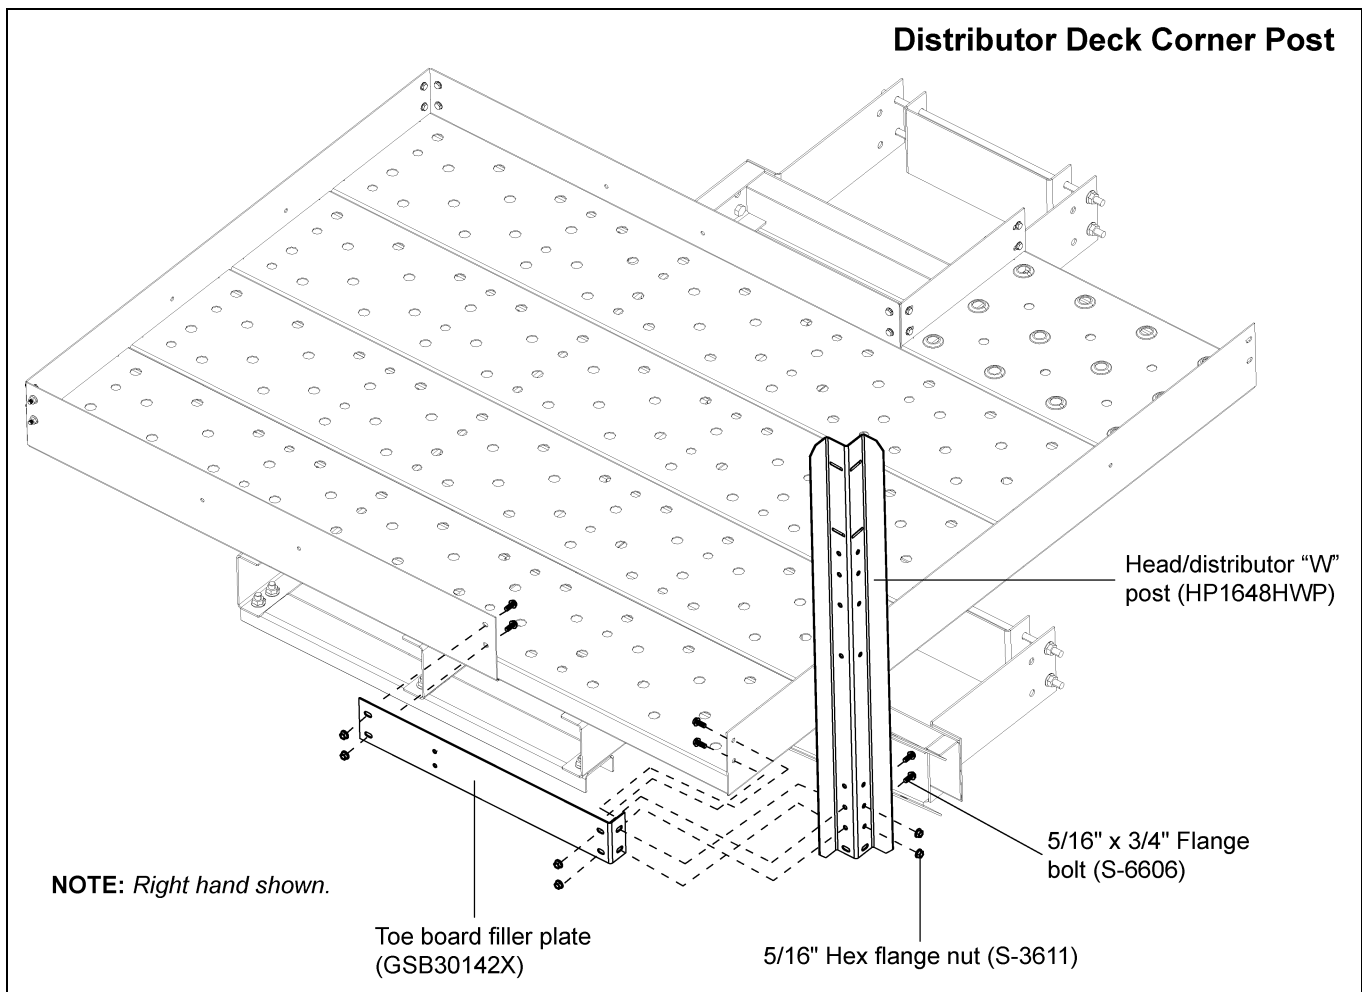

Figure 12G Distributor Platform Corner Post
4. Align flange of end toe board along the bottom of decking. Connect end toe board to decking using 1/2" x 1" bolts and nuts. (See Figure 12G on Page 98.)
5. Install the corner "W" post at the same time as the toe board filler plate. Attach toe board filler plate to the decking toe boards located across from the entrance. Attach the flat end first using two (2) 5/16" x 3/4" flange bolts and nuts. Then line up the holes of the toe board filler plate with the decking toe board, while also aligning the holes of the "W" post on the corner. Fasten all three (3) together with four (4) 5/16" x 3/4" flange bolts and nuts. (See Figure 12G on Page 98.)